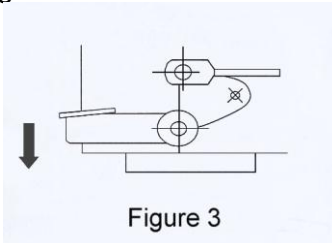

Figure 3
- After the former steps have been made, step on the clutch step (refer Figure 3) to cut the steel bar. It is unnecessary to let clutch step reset when successive cutting is done.